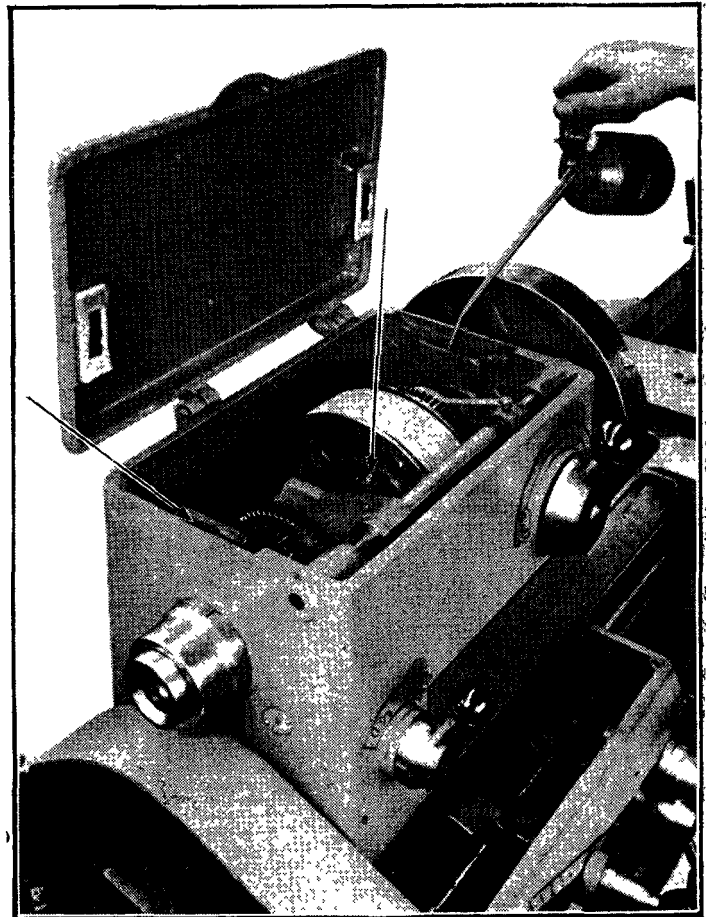

Fig. 32.
- b) Lubricate the bearing of the pulley by means of the lubricator on the hub (fig. 32);